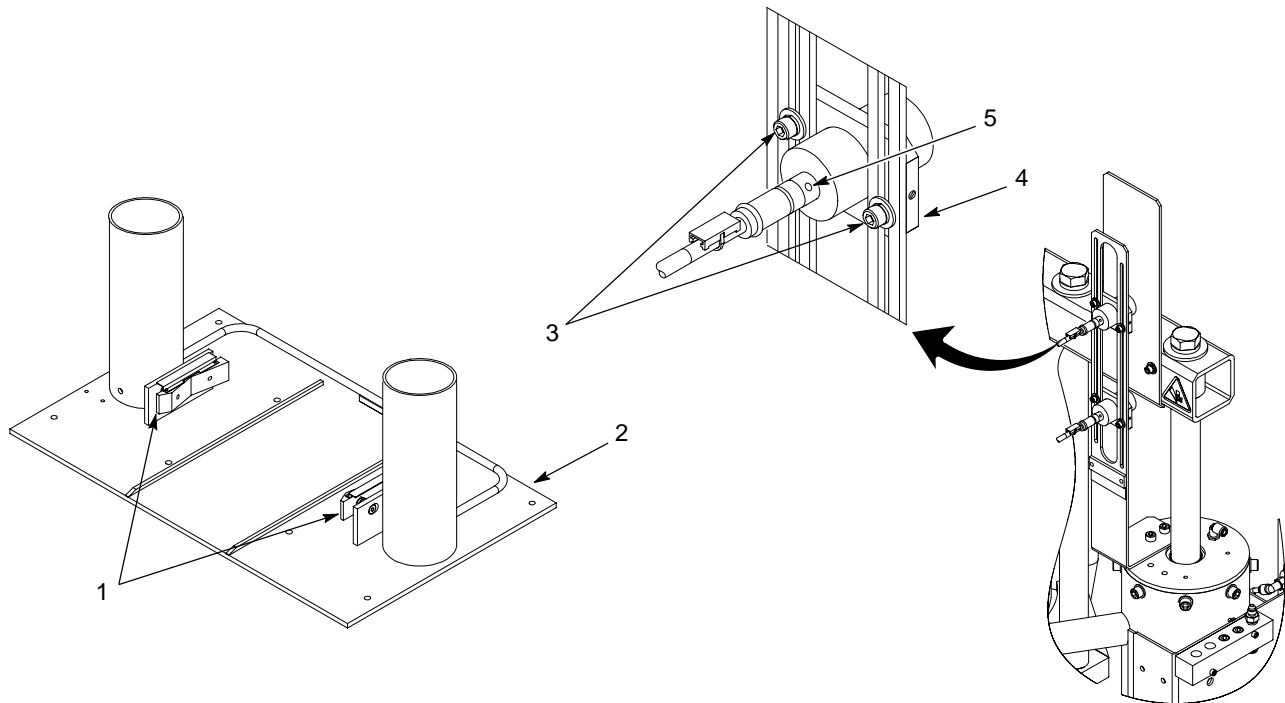

Figure 3 Adjusting the Proximity Sensors
1. See Figure 3. If applicable, remove the hold-down shoes (1) from the frame (2).